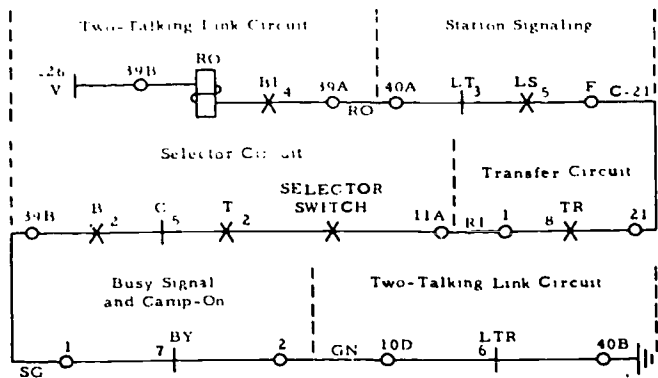

Figure 2-20. Diagram showing operating circuit for relay RO, two-talking link circuit.
(3) Relay RO operates. Operated contact BM5 of relay LS completes the operating circuit for relay RO. Figure 2-20 illustrates the RO relay circuit. This circuit is made possible because of a wiring option referred to as the AL option where terminal 39A of the two-talking link circuit is connected with terminal 40A of the station signaling circuit.